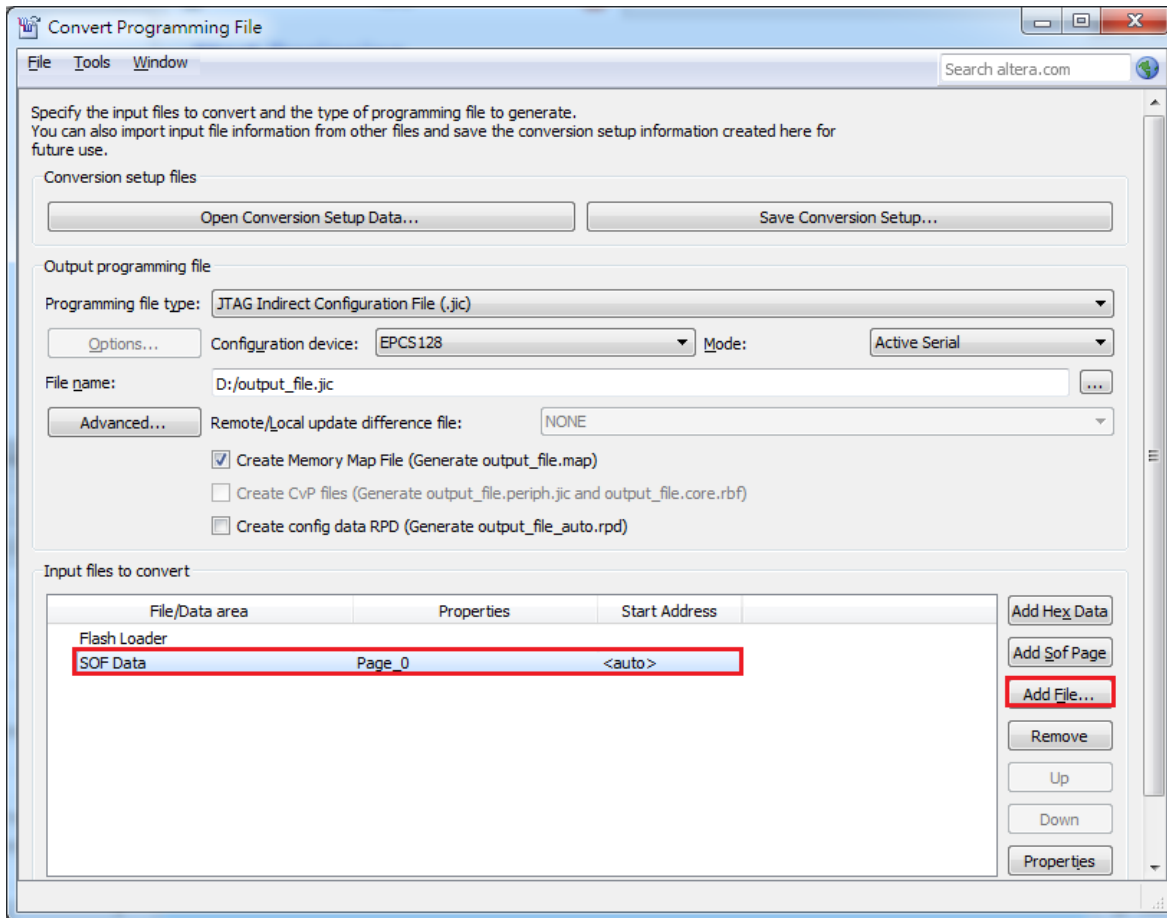

Figure 8-2 Dialog of “Convert Programming Files”
6. Click on the **SOF data** in the section of **Input files to convert**, as shown in **Figure 8-2**.